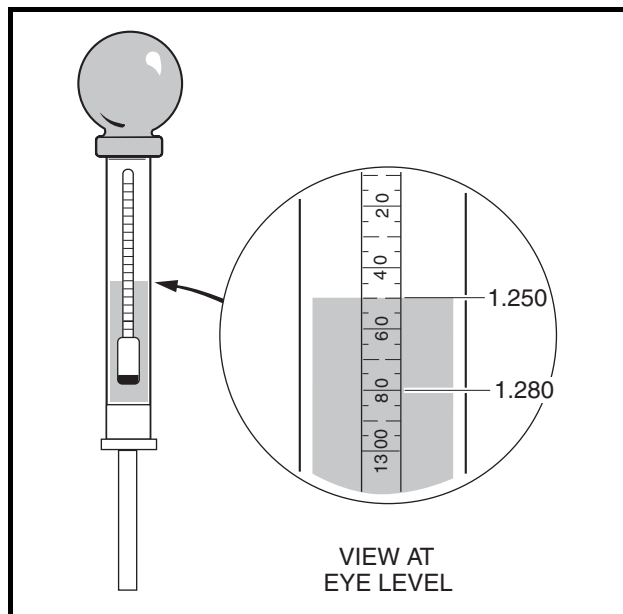

Figure 20-4 Hydrometer
5. Hold the hydrometer vertically, ensuring that the float is not touching the sides of the barrel. Hold the hydrometer at eye level and read the scale at the level of electrolyte (**Figure 20-4, Page 20-8**).